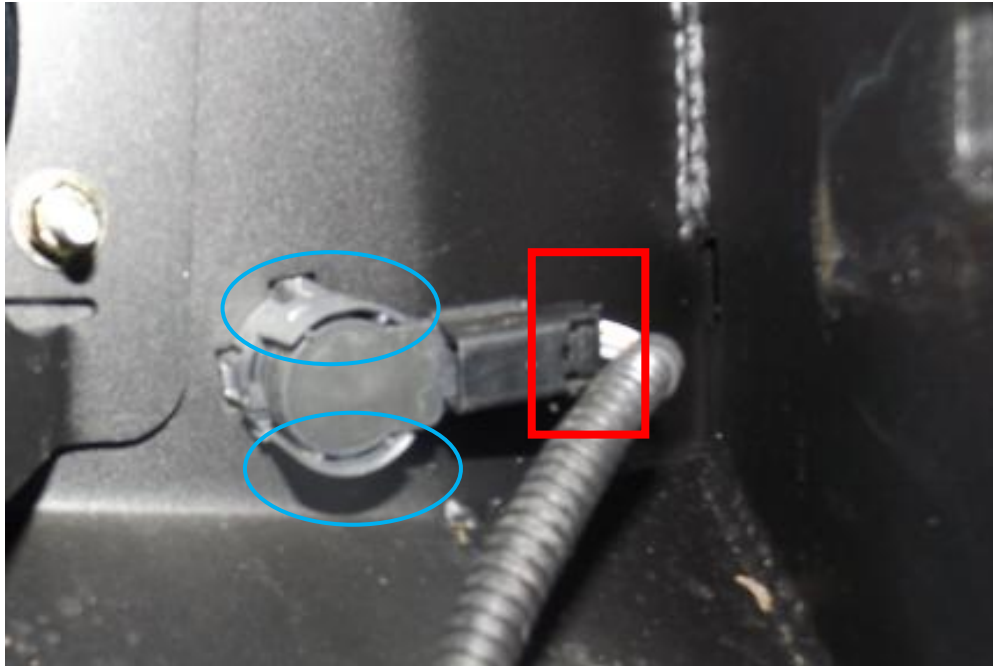

Figure 1
- H. Remove OEM electrical harness from bumper. Sensors can be disconnected from housing by depressing the plastic clip indicated by the square (Ref. Figure 1).**
- J. CAREFULLY remove sensors from plastic housing by gently pulling the top and bottom tabs, indicated by circles (Ref. Figure 1), away as sensor is pulled out. Do not push on front of sensor as this will damage the membrane. Place sensors face up in a safe location.**